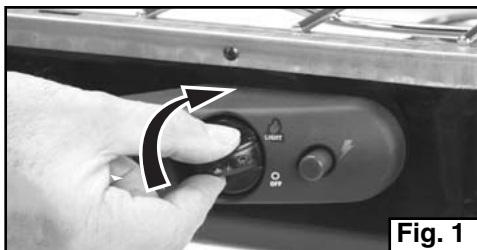

Fig. 1
- Make sure burner valves are off. (Fig. 1)